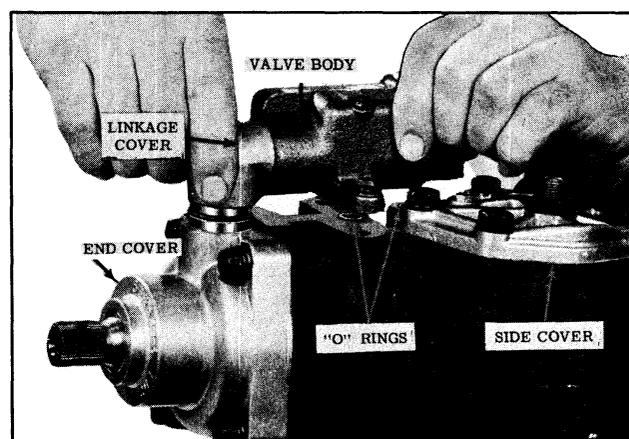

Fig. 5-66 Installing Valve Body
15. Install the 2 "O" rings in the housing. (See Fig. 5-66)